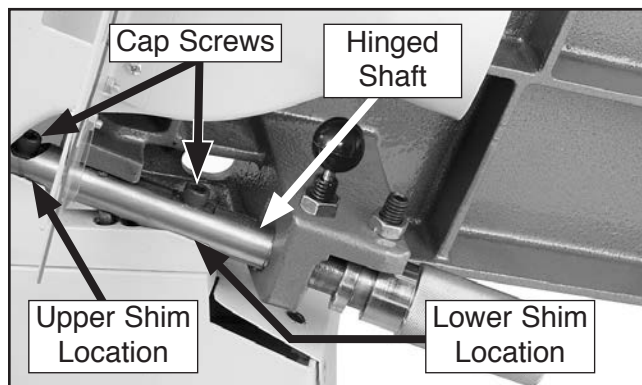

Figure 75. Infeed table hinged shaft. (Jointer table raised for clarity.)
4. Loosen the cap screws shown in **Figure 75**.